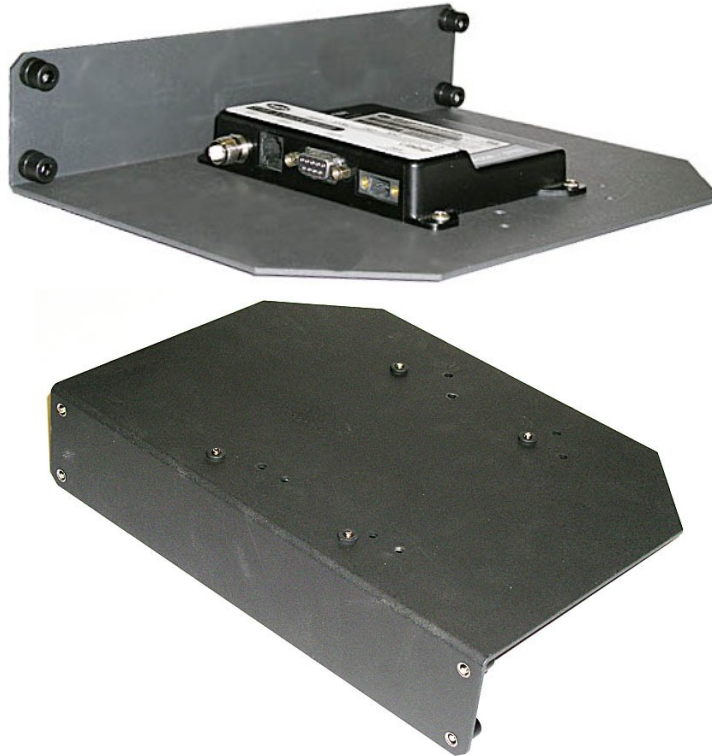

Figure 13-41 TransNET 900 Radio Modem Mounted on Metal Bracket - Front and Rear View
1. Attach the TransNET 900 radio modem to the metal bracket (#0789971V39 from FHN7067A) using the four supplied screws, inserting the screws from above. (See Figure 13-41 below.)